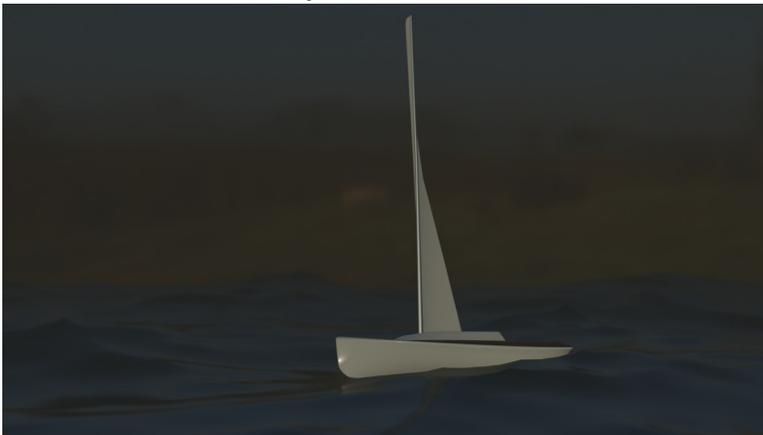

Figure 3-12 Final render: haze at dawn
7. To form the cabin structure, in Edit mode select the edge loop at the inside edge of the side-decks using **SHIFT-ALT-LMB**. In orthographic view with X-Ray on deselect the rear half of the vertices by pressing **CTRL** while box selecting them. Extrude upwards, scale inwards and rotate slightly about the X axis. You can see in Figure 3-12 the proportions I used.
4. Use an environment texture again for background and lighting. Delete the default point light then add an outdoor environment texture, as you did for the ring and mask exercise. In Figure 3-12 you can see that I used 3.03/datafiles/studiolights/world/sunrise.exr but turned the Strength down.